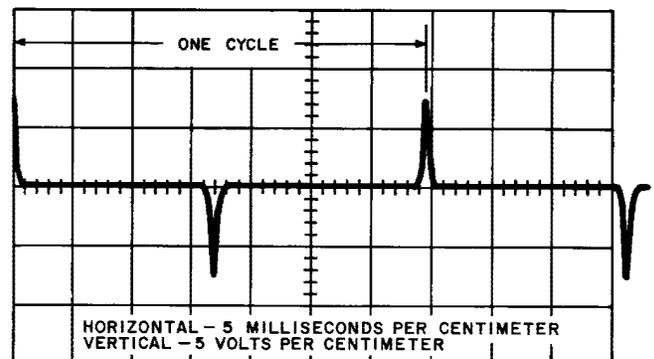

Fig. 3—Reluctance Pickup—28.0- to 29.0-Hz Output
**2.04 58-Cycle Detector (CP8):** The 58CD, EL20 furnishes a "1" signal pulse at TP2 (terminal 2) and a "0" signal at TP4 (terminal 19) when the pulsed signal at the input to the PS, EL23 (pins g and x of P1) reaches or exceeds a repetition rate of  $28.5 \pm .5$  Hz (see Fig. 3 and 4). This signal input consists of a series of positive and negative pulses which are approximately  $7$  volts in amplitude